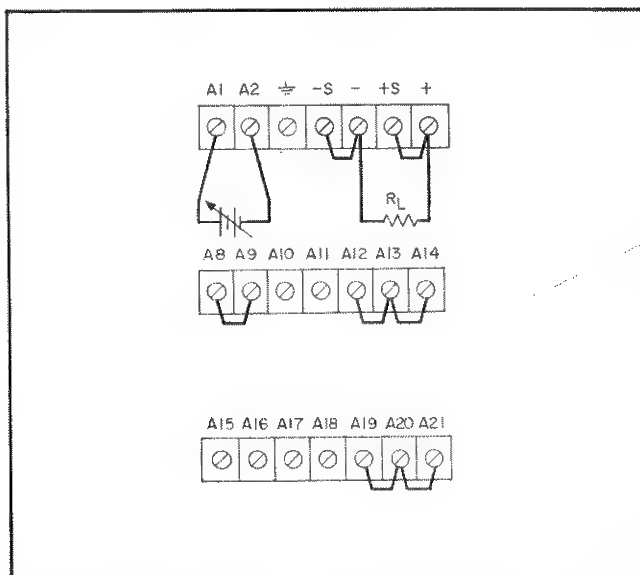

Figure 3-7. Remote Voltage Programming, Constant Voltage
**3-50 Variable Gain Amplifier.** AC signals or a dc level (positive or negative) can be amplified or attenuated in the variable gain amplifier mode. Figure 3-7 shows a variable dc level (programming voltage) applied to the input terminals A1 (HI IN) and A2 (LO IN). Since the BPS/A is non-inverting in the variable gain amplifier mode, a positive input (A1 positive, A2 negative) results in a positive output and a negative input (A1 negative, A2 positive) results in a negative output. The other connections on Figure 3-7 are shown for local control using front panel controls, however, remote control using external controls may also be employed. The front panel or remote voltage controls can be used to attenuate or amplify the input as required. With the front panel VOLTAGE control or remote programming resistor set for maximum output, the programming coefficient is as follows:
Figure 3-7 shows a variable dc level (programming voltage) applied to the HI (A1) and LO (A2) input terminals. Since the BPS/A provides an inverted output in the fixed gain amplifier mode, a positive input (A1 positive, A2 negative) results in a negative output and a negative input (A1 negative, A2 positive) results in a positive output. The front panel or remote programming voltage controls are not applicable in this mode. The programming coefficient in the fixed gain amplifier mode is as follows: